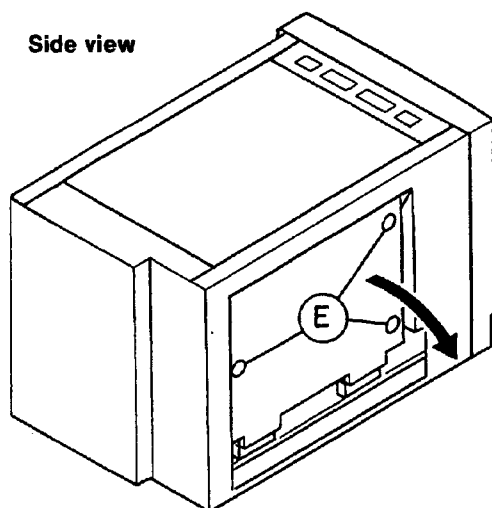

Fig. 3
- (1) Remove the 3 screws ⑫ shown in Fig. 3.
- (2) Open the signal PC board assembly towards yourself as shown by the arrow.
- (3) Grasp at the position of arrows ① and pull in the direction of arrow ② to remove the signal PC board assembly. (Removing the hinge connectors one by one facilitates the removal.)